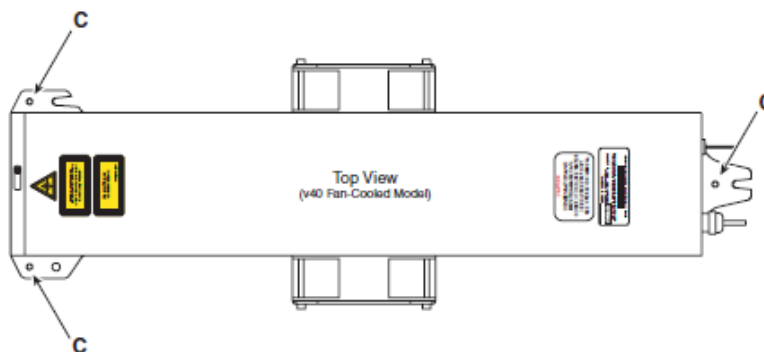

Figure 1-3 Fastening from below
1. Refer to the appropriate outline and mounting drawing for dimensions and then drill three 0.261” (6.6 mm) diameter holes into your mounting surface. Hole locations should correspond to the threaded holes labeled “C” shown in Figure 1-3.
2. Place on the mounting surface so that the threaded holes on the base plate (labeled “C” in Figure 1-3) line up with the holes drilled through the mounting surface.